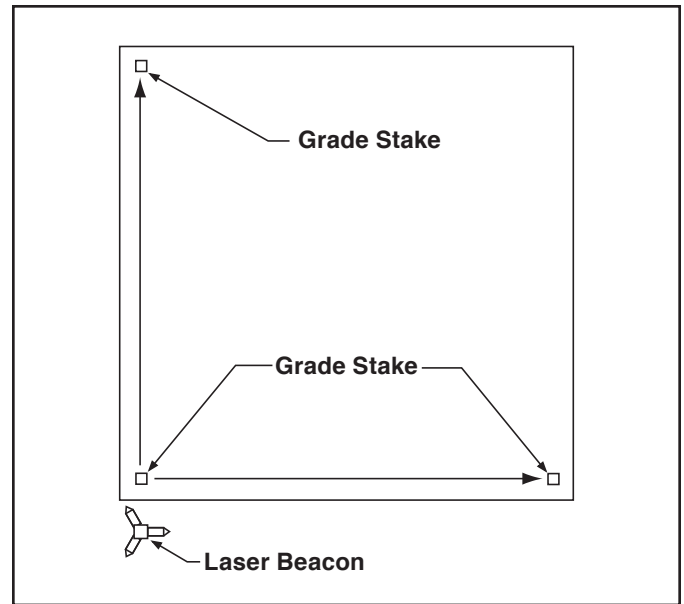

Figure 29. Method Two: Align Rotating Laser with Grade Stakes.
- Place the Rotating Laser a few feet (meters) behind the first grade stake and in line with one of the far grade stakes (it is not critical to align the Rotating Laser exactly). (Refer to **Figure 29**.)